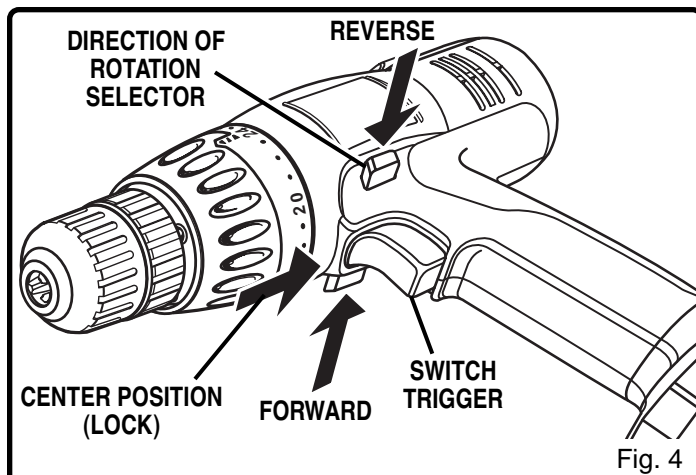

Fig. 4
See Figure 4.
- Place the direction of rotation selector in center position. See Figure 4.
- Place the direction of rotation selector in center position. This will lock the switch trigger in the off position. See *Figure 4*.
- Lock the switch trigger by placing the direction of rotation selector in center position. See Figure 4.